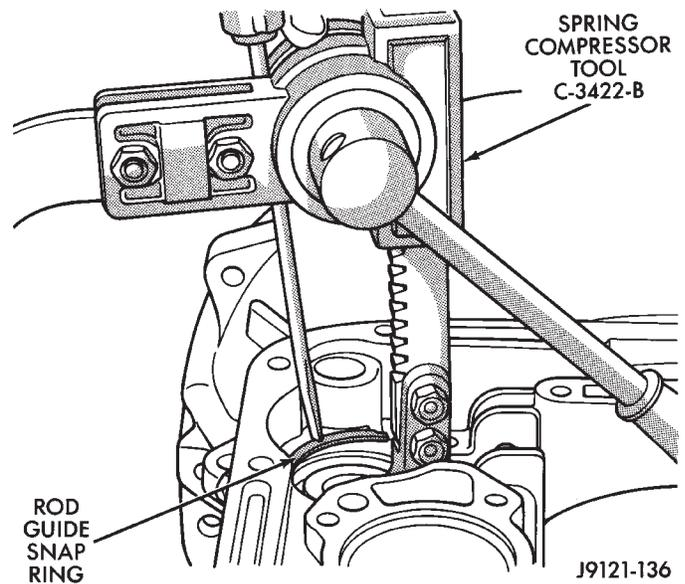

Fig. 133 Compressing Front/Rear Servo Springs
(3) Compress front/rear servo springs with Valve Spring Compressor C-3422-B and install each servo snap ring (Fig. 133).